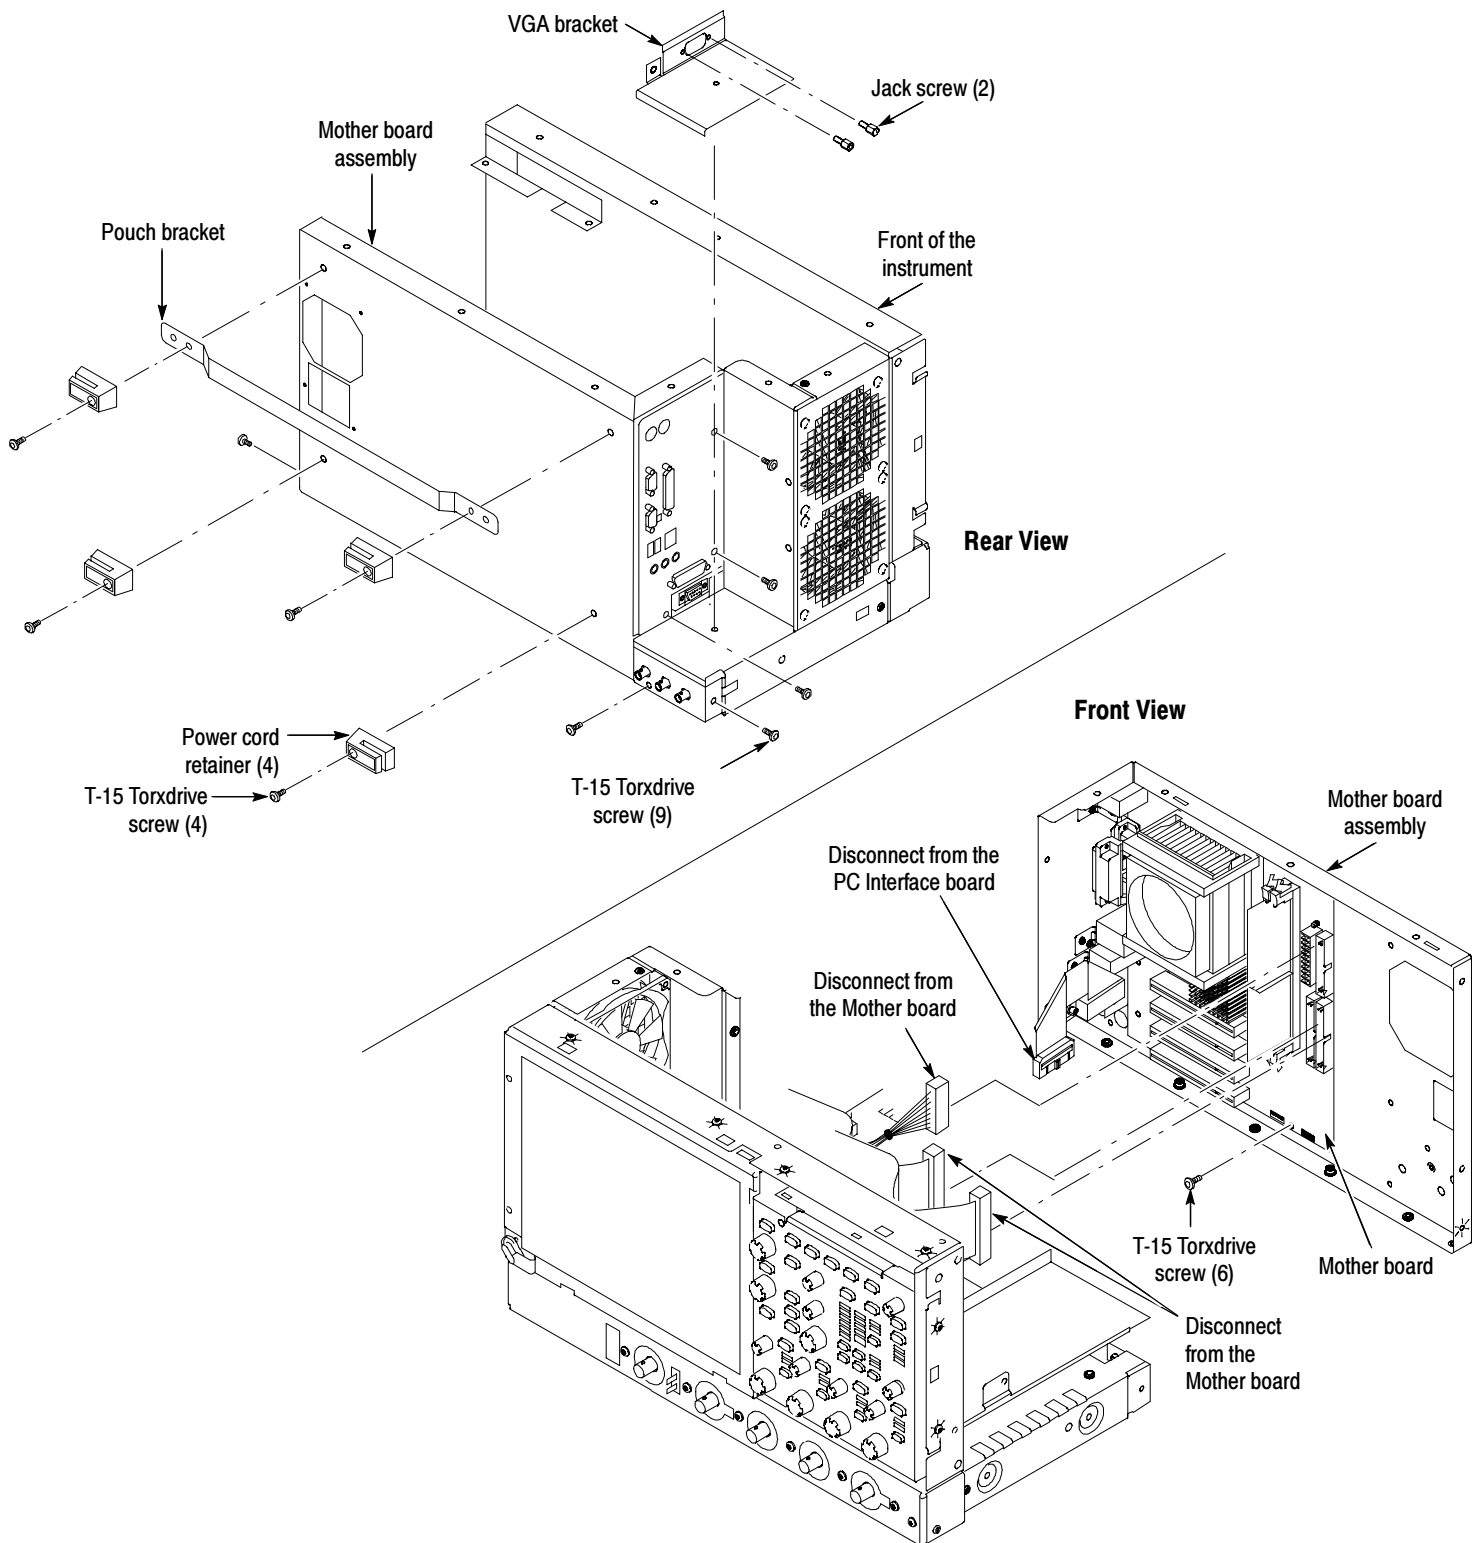

Figure 11: Mother board removal
2. *Remove the Mother board assembly:* See Figure 11, on page 20.
7. Follow the steps 2a through 2j under *Mother board Assembly* on page 19 in reverse order to reconnect all cables on the Mother board and to install the Mother board assembly in the chassis. If necessary, refer to Figure 1 on page 8 and Figure 11 on page 20 to reinstall all the cables.